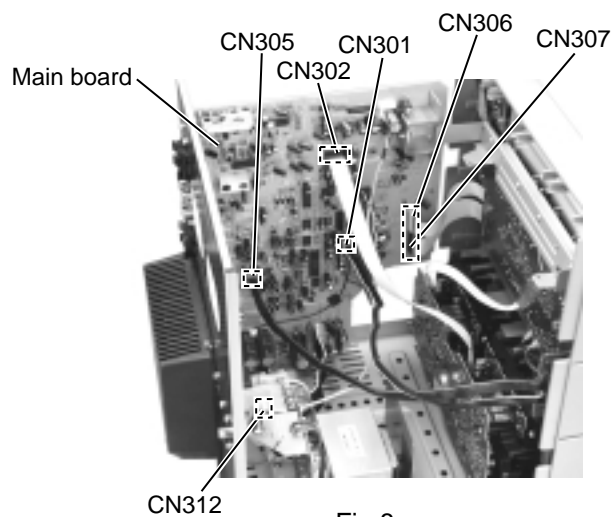

Fig.8
■ Removing the front panel assembly (See Fig.8 to 11)